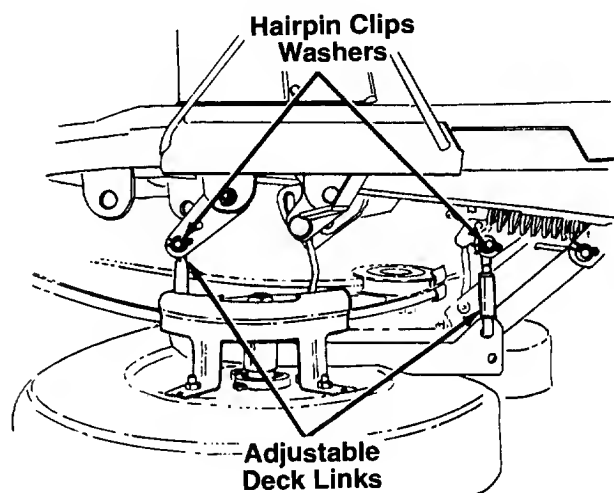

FIGURE 8.
3. Disconnect the adjustable deck links from the deck lift pivot brackets on the left side of the unit by removing the hairpin clips and flat washers. See figure 8.